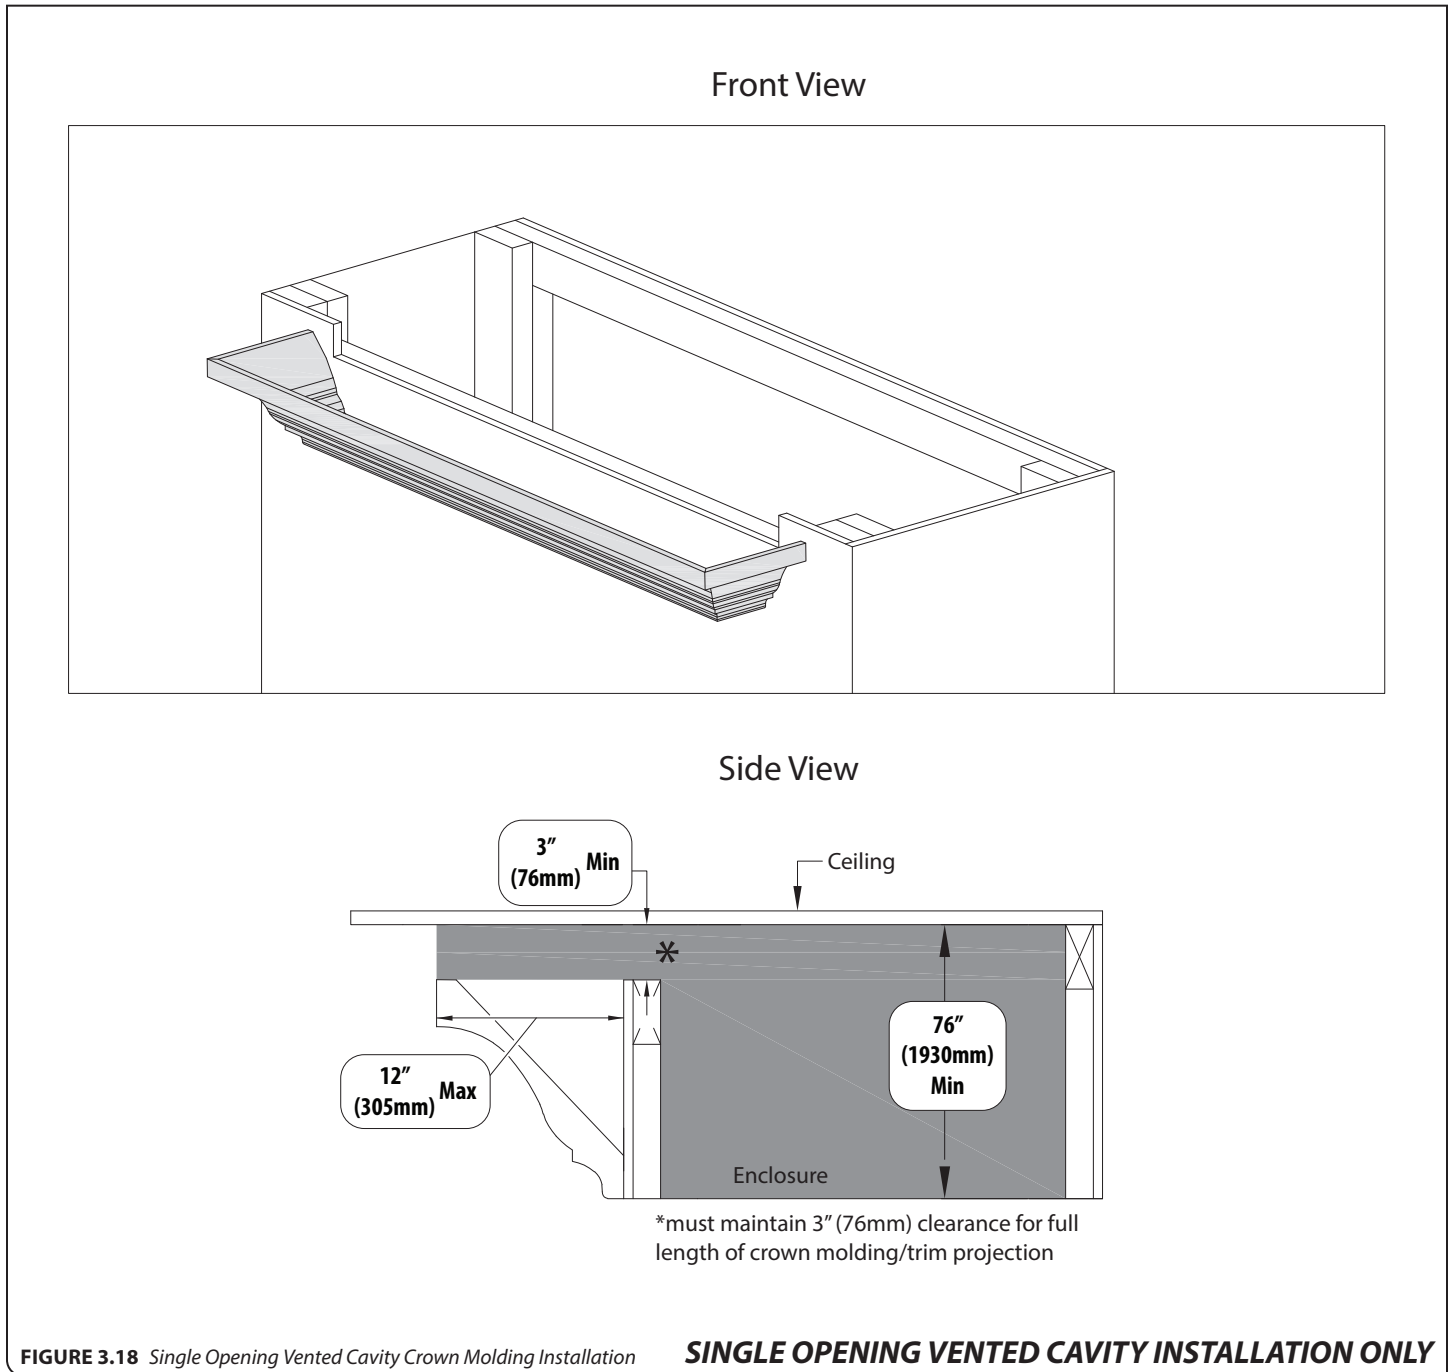

**FIGURE 3.17** Single Opening Vented Cavity Installation
- **FIGURE 3.17** shows the minimum required dimensions for the single opening vented cavity air discharge opening. This single 3" (height) x 53-1/2" (width) air discharge opening can be in either on the front (access side) wall or the back (fixed side) wall of the fireplace. Hot air will exit to the room where the air discharge opening is located.
- **FIGURE 3.17** is shown with an air discharge overhang in front of the air discharge opening. This optional installation method can provide a means to visually hide the air discharge opening.